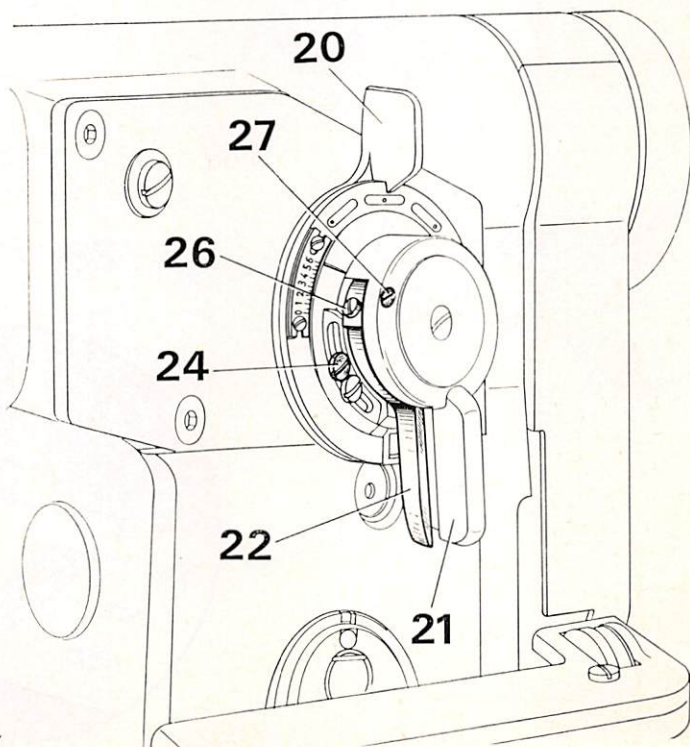

Fig. 7
4.3 Limiting the Maximum Stitch Width (Fig. 7)
4.4 Adjusting the Locking Lever (Fig. 7)